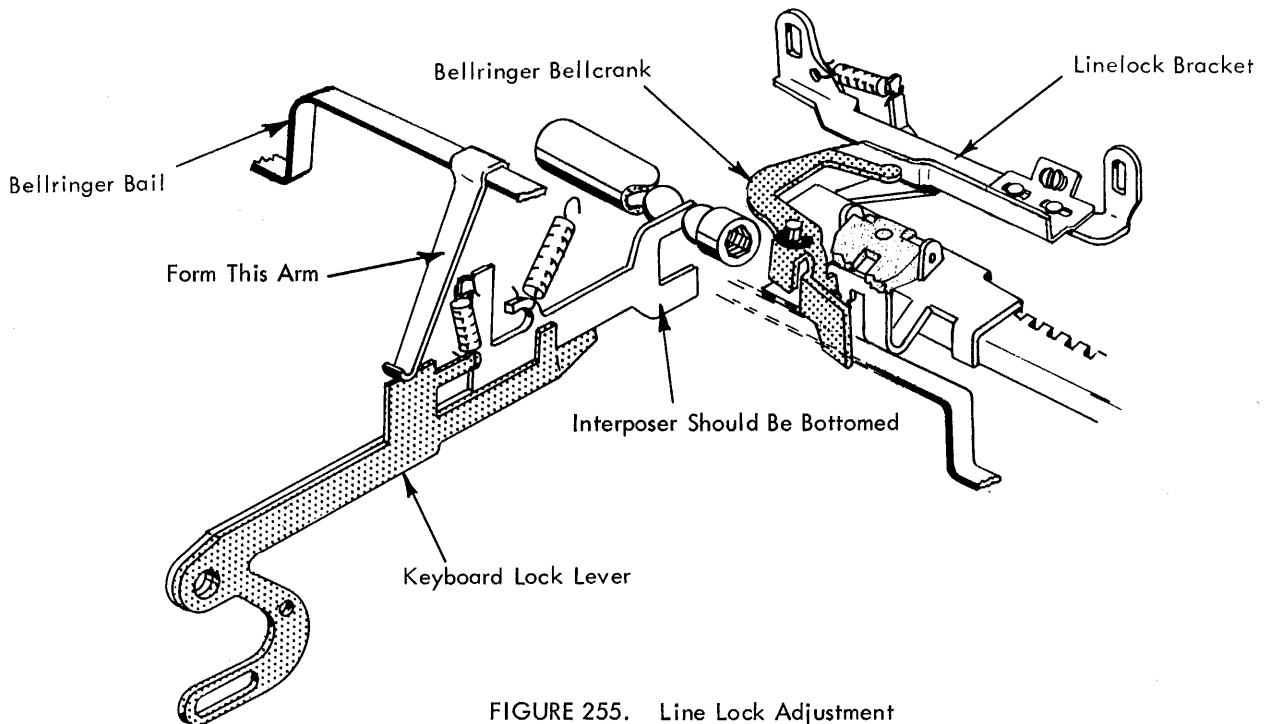

FIGURE 255. Line Lock Adjustment
10. Line Lock - Form the line lock actuating arm on the bellringer bail so that the line lock interposer is fully depressed when the carrier pointer is in line with the mark on the right hand margin stop (Fig. 255).